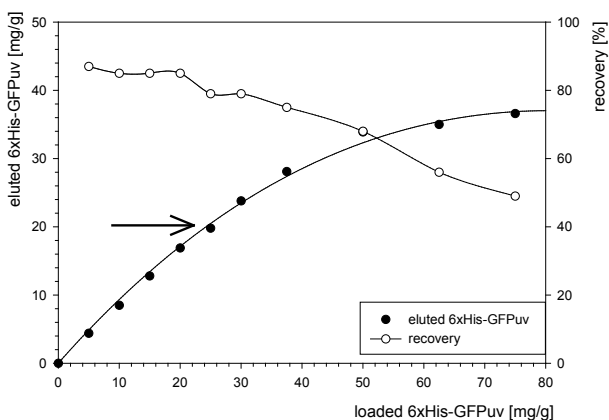
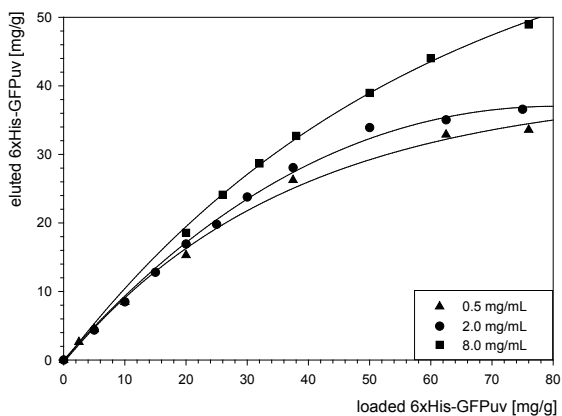

Figure 2: Binding behaviour of 6 x His-GFPuv to Protino® Ni-IDA Resin
Figure 3: Binding behaviour of 6xHis-GFPuv to Protino® Ni-IDA at different concentrations of the polyhistidine-tagged protein in the sample
The binding behaviour of any polyhistidine-tagged protein to Protino® Ni-IDA can be examined by calculating the amount of protein that is eluted as a function of the amount of protein that has been loaded (see Figure 2). Please note that the resulting graph will vary in dependence on characteristics and concentration of the individual His-tag protein. The binding curve can be divided in three stages:
1. Stage of maximum recovery. At this stage the loaded protein is bound to the resin nearly quantitatively and can be eluted nearly quantitatively, too (the binding curve is almost linear, see Figure 2, • eluted His-GFPuv).
Figure 2 shows a plot of the amount of eluted 6xHis-GFPuv against the amount of loaded 6xHis-GFPuv. The binding curve can be divided in three stages:
Under the above mentioned conditions the binding capacity of Protino® Ni-IDA for 6xHis-GFPuv is approximately 20 mg protein per g of resin (see arrow, Figure 2). At this point the protein recovery is > 80%. Consequently the following amounts of 6xHis-GFPuv have to be loaded: For optimal recovery: load ~ 20 mg protein per 1 g of Protino® Ni-IDA Resin, for maximum yield: load ~ 75 mg protein per 1 g of Protino® Ni-IDA Resin.
Recovery rates and yield can be increased by using samples containing higher concentrated polyhistidine-tagged protein (6xHis-GFPuv). Figure 3 shows that the yield of purified polyhistidine-tagged protein is not only depending on the total amount of target protein loaded on the column (also see Figure 2) but also on its concentration in the lysate. Consequently the concentration of target protein in the sample should be as high as possible.